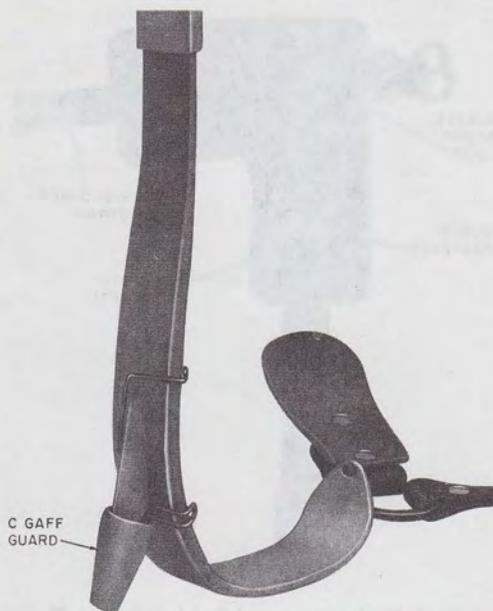

Fig. 7—C Gaff Guard Installed
**2.12** Gaff guards are used to protect gaffs and employees when climbers are not being used. They also protect other tools from damage that are stored in the vicinity of climbers. Figure 7 shows the gaff guard installed.